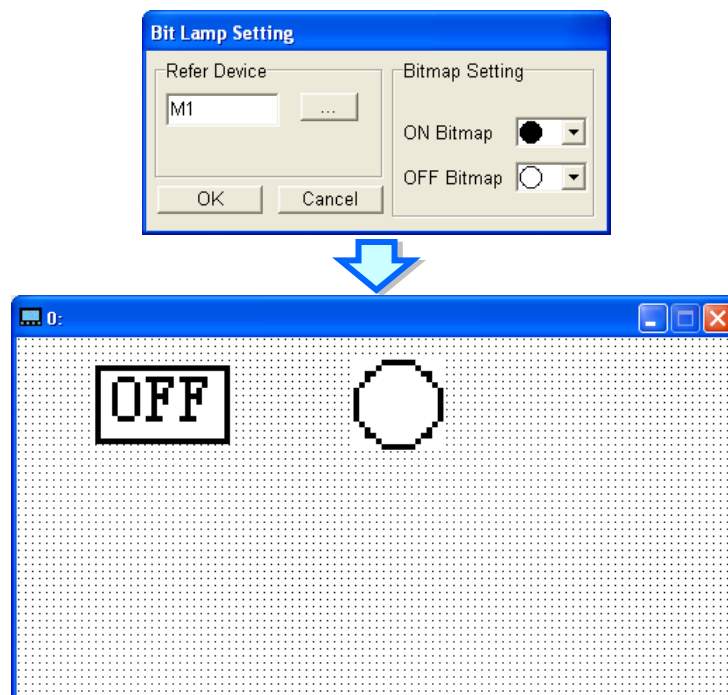

Figure 6-21 Bit Lamp
- Step 5: The users have to insert a bit lamp in the same way. In the **Bit Lamp Setting** window, the users have to select **M1** in the **Refer Device** section, and select the images corresponding to the states of the related device selected in the **Bitmap Setting** section. A bit lamp is as shown in Figure 4-27. After the users click **OK** in the **Bit Lamp Setting** window, page 0 will be as shown in Figure 6-21.